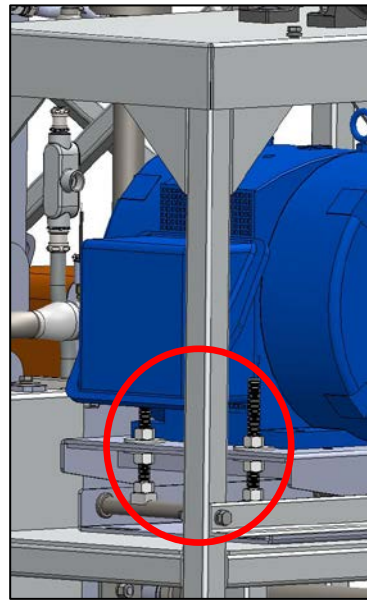

FIGURE 1.7-2: GENERATOR TABLE NUTS
- 2) With the guard out of the way, loosen the nuts on the generator table (shown in Figure 1.7-2) that tighten the belt.